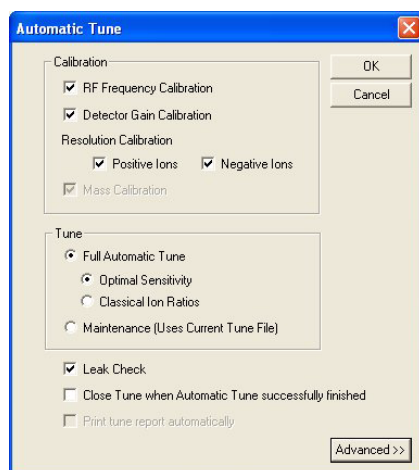

Figure 1-26 Automatic Tune - Full
- b. Select the options indicated in Figure 1-26 Automatic Tune - Full. Except, select the **Resolution Calibration** option for **Negative Ions** only if the instrument will be used for negative chemical ionization. This calibration may require that the mass spectrometer gain be increased from 1×10^5 to 3×10^5 in order to pass. Only increase the mass spectrometer gain if the calibration fails on the first attempt. The tune report will display m/z -452 when this calibration has been run. It is normal for this ion to display poor resolution. The resolution for negative ions can be tuned once the instrument is switched to Negative Chemical Ionization mode.